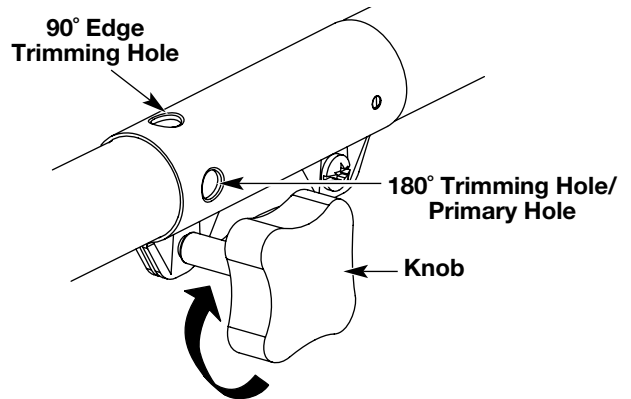

Fig. 8
3. Turn the knob clockwise to tighten (Fig. 8).
For decorative trimming/edging with the **line head cutting attachment**, lock the release button of the cutting attachment into the 90° hole or the 180° hole (Fig. 8). For edging with the **edger add-on**, lock the release button of the cutting attachment **only** into the 180° trimming hole/ primary hole (Fig. 8).